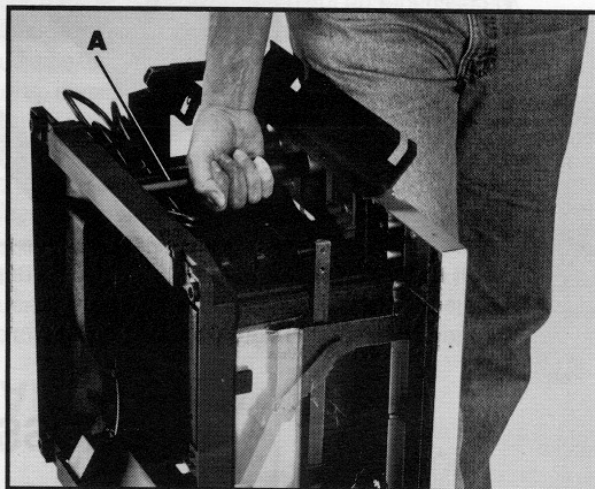

Fig. 48
A carrying handle (A) Fig. 48, is provided on the rear of the saw. This handle makes transporting the saw an easy operation as shown.